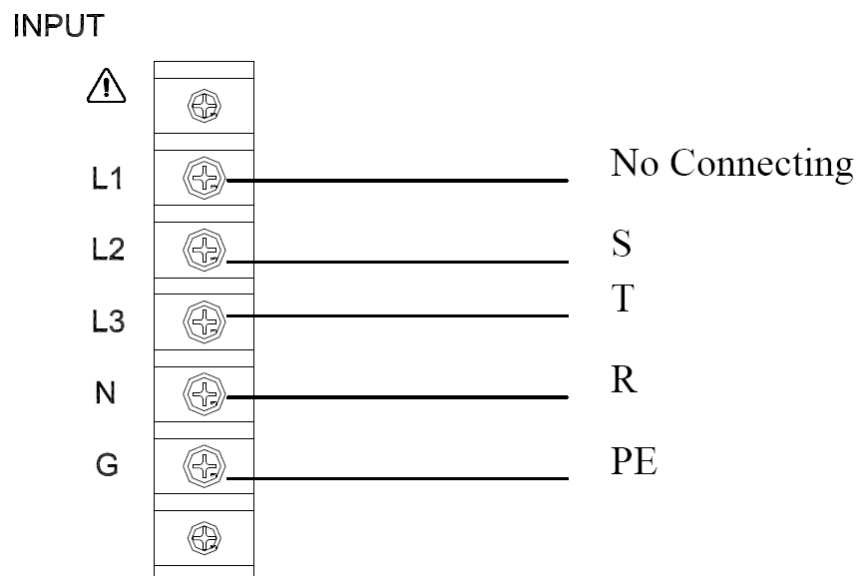
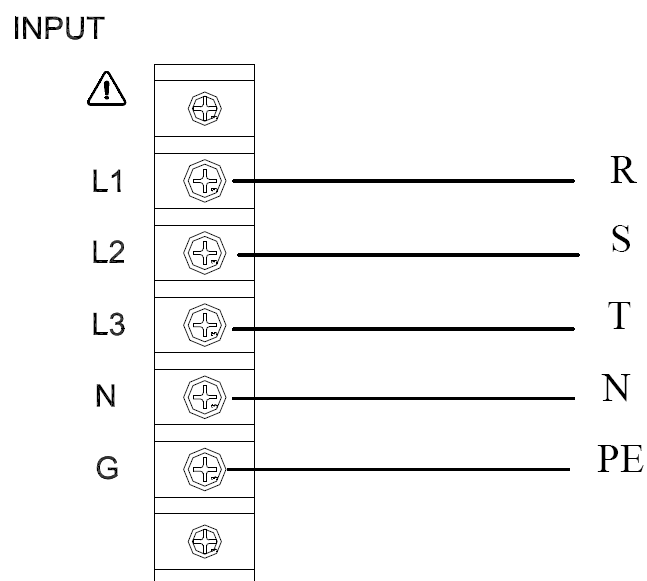

Figure 2-3 220V_{LL}, 3-phase 4-wire Δ Input Connection
Figure 2-4 380V_{LL}, 3-phase 5-wire Y input connection
- (5) To assemble 62050P ➔ see Figure 2-3 & Figure 2-4